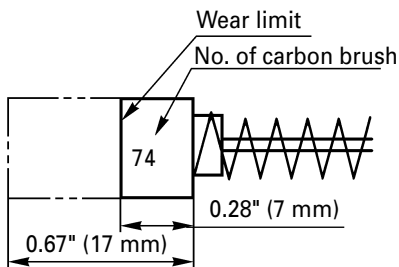

Fig. 20
4. Inspecting the carbon brushes: (Fig. 20)
Use HITACHI carbon brush No. 74 indicated in Fig. 20